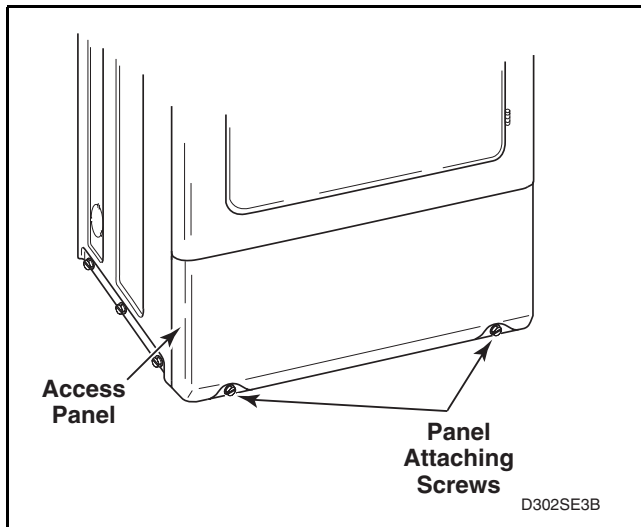

Figure 8
Refer to *Figure 8*.
- a. While supporting the access panel, remove two screws from bottom edge of access panel. Refer to *Figure 8*.